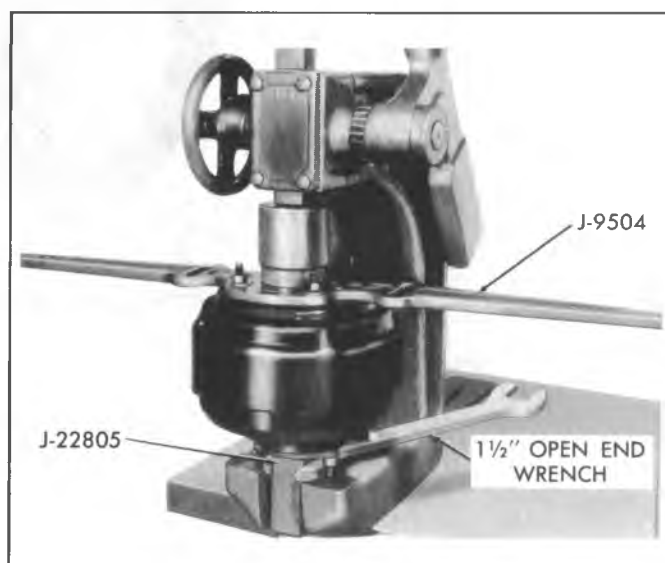

Fig. 5-4B--Holding and Separating Housings Using J-22805 and J-9504 in Arbor Press
12. Secure front housing and Holding Fixture J-22805 on arbor press plate by a suitable means (fig. 5-4B).